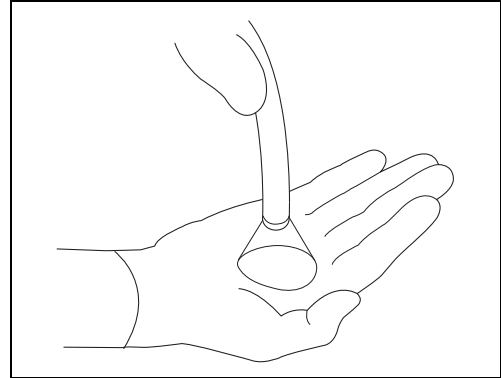

Figure 3.23
- 2 Confirm that light is output from the distal end of the endoscope. (See Figure 3.23)